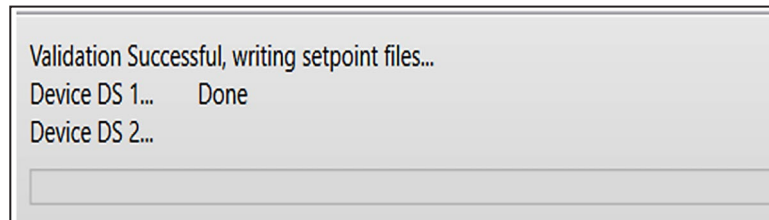

Figure 12. The Setpoint File Creation dialog box.
STEP 8. Validate the circuit. Correct any validation errors if they occur and re-validate the circuit. When the **Validation** button is clicked on and no validation errors occur, the IntelliTeam Designer application will create setpoint files saved to the local drive where the circuit was saved. See Figure 12.